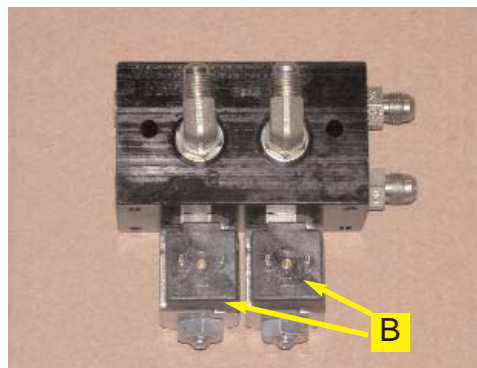

Figure 1d. Valve coils (**B**) installed.
d. Install the two new valve coils (**B**) supplied. Tighten the retainer nuts 1/4 turn past finger tight. Over tightening will damage the cartridge valves. (Figure 1d.)